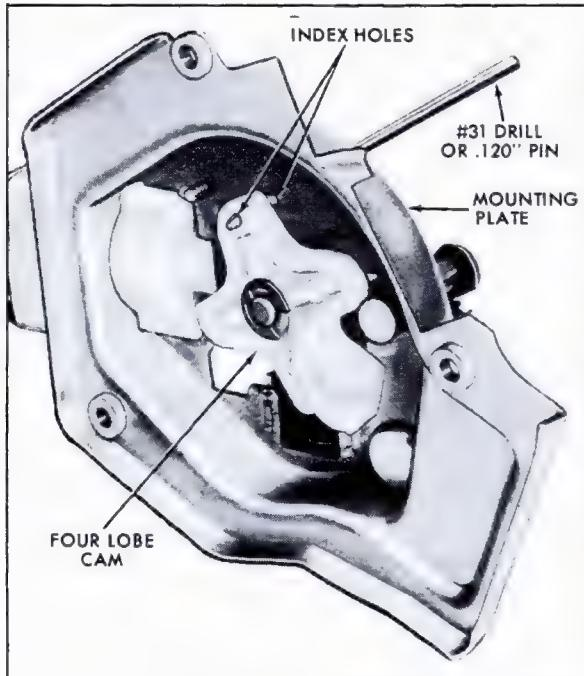

Fig. 12-25 Aligning Washer Cam
- Align index hole in four lobe cam with index hole in cover and insert a .120" (#31) drill, or similar size pin, through mounting plate hole into index hole in four lobe cam, Fig. 12-25.